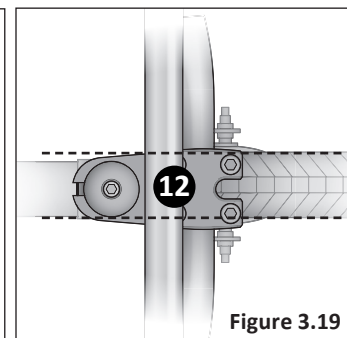

Figure 3.19
- 12 Look down over the handle and stem and check that the stem is parallel with the tire. **Figure 3.19**